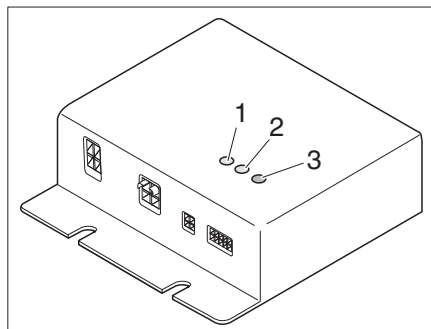

Fig. 251 Control unit
The control unit (Fig. 251) is installed in the wardrobe. The control lamps on the control unit have the following meanings:
- The indicator LED (Fig. 251,1) HC1 lights up in green: Heating circuit 1 is operating
- The indicator LED (Fig. 251,2) HC2 lights up in green: Heating circuit 2 is operating
- Fault LED (Fig. 251,3)